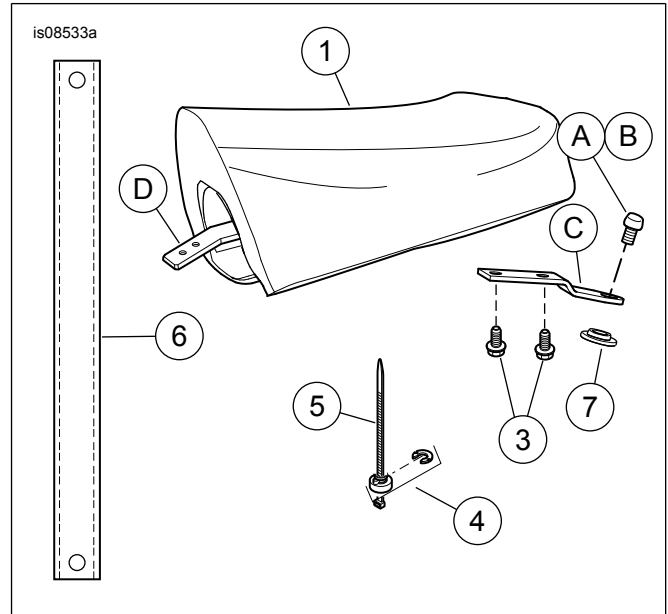

Figure 5. Service Parts: XL Pillion
See Figure 5 and Table 1.
8. See Figure 5. Install the new seat bracket (2). Secure with screws (3). Tighten to 4.5–6.8 N·m (40–60 in-lbs).